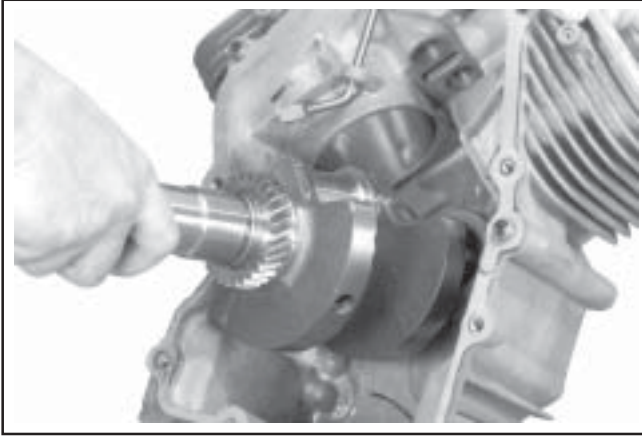

Figure 9-73. Removing Crankshaft.
1. Carefully pull the crankshaft from the crankcase. See Figure 9-73. Note thrust washers and shims if used.